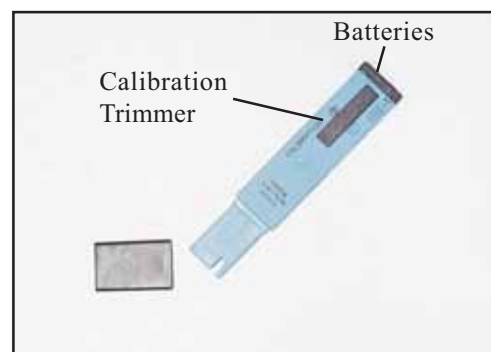

Figure 2c.
- To change batteries for DiST WP¹ models, unscrew the top with a coin and replace the batteries (**Figure 2c**).